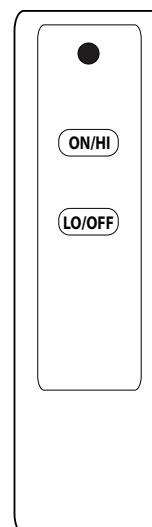

Fig. 11-1 Remote transmitter detail
2. Locate the remote transmitter and press and hold the **ON/HI** button (see Fig. 11-1). The ignition sequence will begin.